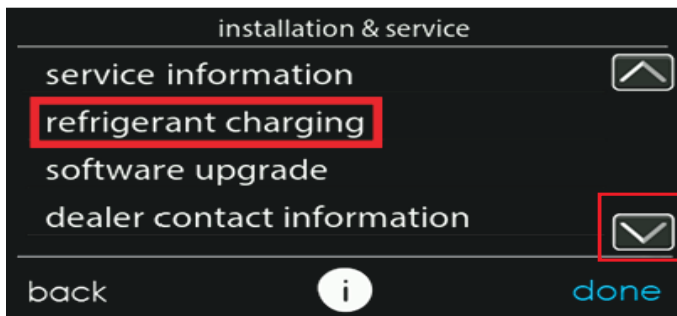

Fig. 14 – Installation and Service Menu
5. Navigate to the "Installation and Service menu" by performing a long press on the service icon from the main screen (see Fig. 13). Once in the "Installation and Service" menu, select "Refrigerant Charging" (see Fig. 14).